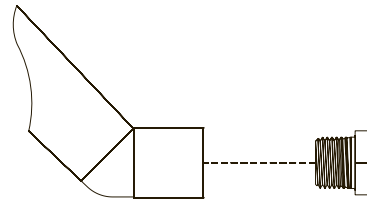

Figure 33
3. Remove LP burner orifices marked 1.25 mm for R3B. Remove LP burner orifice marked 1.3 mm for R3. **See Figure 33.**